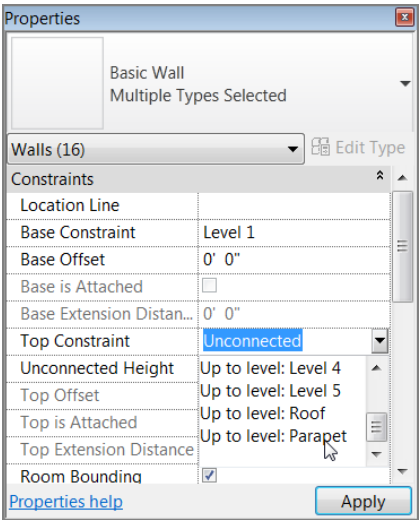
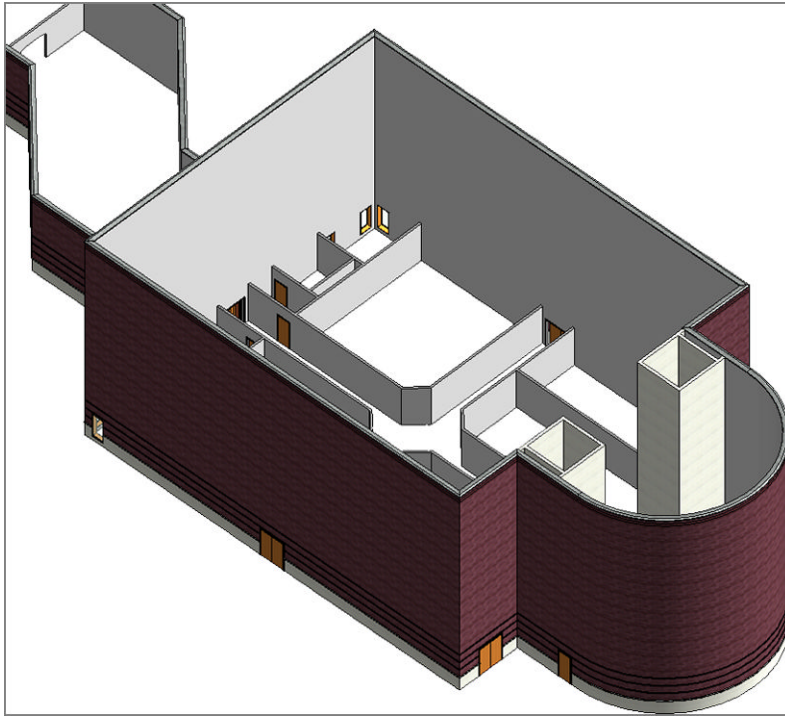

FIGURE 3.21: Setting the top constraint to Up To Level: Parapet
FIGURE 3.22 : The walls on the east side of the building are now constrained to the Parapet level.
3. In the Properties dialog, under the Constraints category, change Top Constraint to Up To Level: Parapet, as shown in Figure 3.21. Click Apply or move your cursor into the drawing window to set the property change. The walls should now extend to the Parapet level, as shown in Figure 3.22.